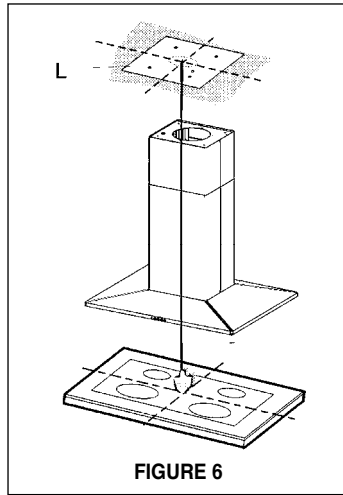

FIGURE 6
3. A template (L in FIGURE 6) for mounting the support is supplied in the carton with the support. Use this template to mark holes for
4. Determine and make necessary cuts for the ductwork. The duct opening is shown on the mounting template (L in FIGURE 6). Install ductwork before mounting the support.